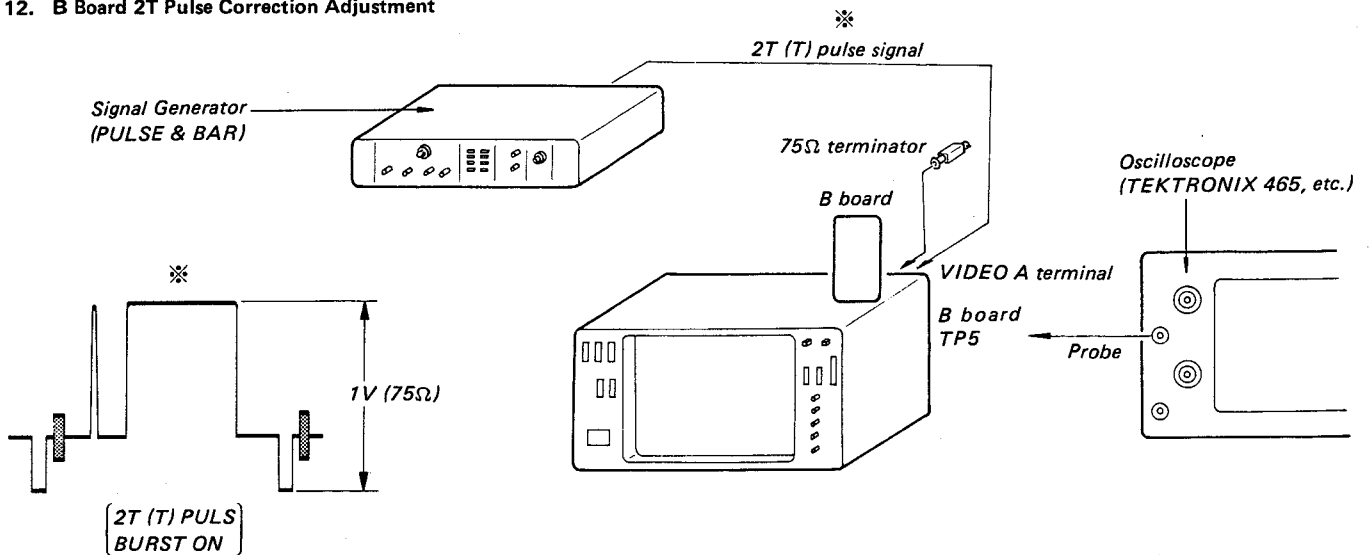

Fig. 5-67.
1. Complete the connections as shown in Fig. 5-67.